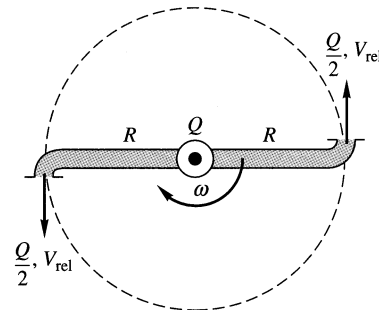

Fig. P11.15
**11.15** A lawn sprinkler can be used as a simple turbine. As shown in Fig. P11.15, flow enters normal to the paper in the center and splits evenly into  $Q/2$  and  $V_{\text{rel}}$  leaving each nozzle. The arms rotate at angular velocity  $\omega$  and do work on a shaft. Draw the velocity diagram for this turbine. Neglecting friction, find an expression for the power delivered to the shaft. Find the rotation rate for which the power is a maximum.